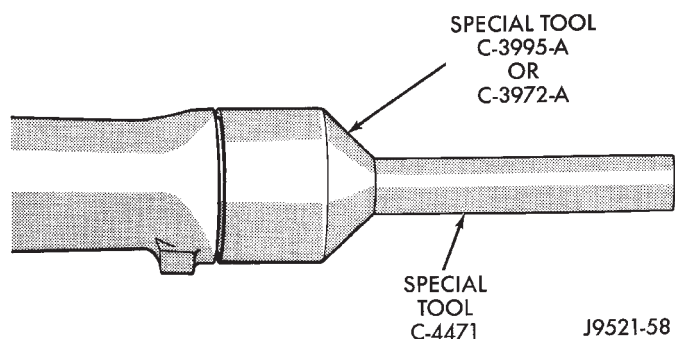

Fig. 32 Installing Overdrive Housing Yoke Seal
- (1) Place seal in position on overdrive housing.
- (2) Drive seal into overdrive housing with Seal Installer C-3995-A or C-3972 (Fig. 32).
- (3) Carefully guide propeller shaft slip yoke into housing and onto output shaft splines. Align marks made at removal and connect propeller shaft to rear axle pinion yoke.